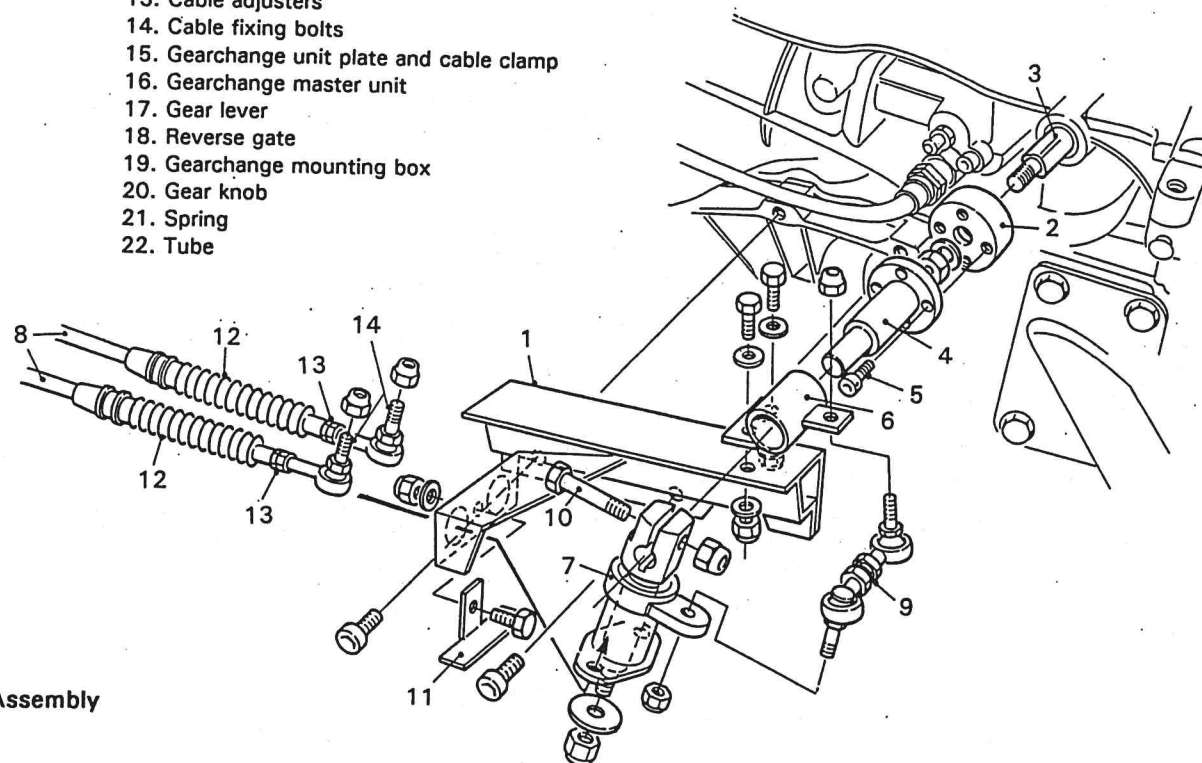

Fig.1 Gearchange Linkage
1. Refer to Fig. 1. Fit the gearchange mounting bracket (1) to the gearbox using the two top existing gearbox torque bolts to secure it.
2. Fit gearchange linkage (2) over the spindle (3) protruding from the gearbox and secure using an M8 plain nut with Loctite on thread.
3. Fit the gearchange arm extension (4) onto the change linkage using four M5 x 20mm cap head bolts (5) with Loctite on threads. The heads of these bolts should be pre-drilled for wirelocking with a 2mm hole.
4. Fit the bush carrier (6) over the gearchange arm extension and align holes with bracket as closely as possible. Shim the bush carrier on the bracket until the gearchange arm extension can slide easily through the bush. Tighten the two M8 x 25mm bolts on the carrier using washers and nylock nuts to secure. Check that the arm extension can still slide easily.
5. Fit the gearchange translator (7) which pinch-fits onto the arm extension using an M8 x 55mm bolt and plain nut for setting-up purposes.
6. Attach the gearchange cables (8) to the gearchange translator using an M6 bolt and plain nut for setting up.
7. Fit the lever arm (9) bolts into the translator and the bush carrier using M6 bolts and plain nuts for setting up. Tighten the lever arm adjuster locknuts to fix the length after establishing the gear positions in Op 8.